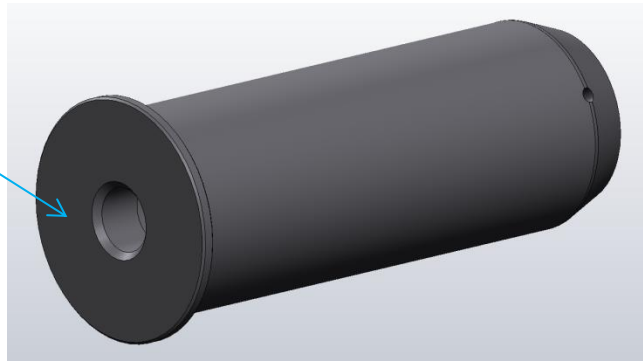

Figure 1: Main bolt marking location and content
3. If markings are missing, mark the bolt head with the permanent marker with the information in Figure 1.